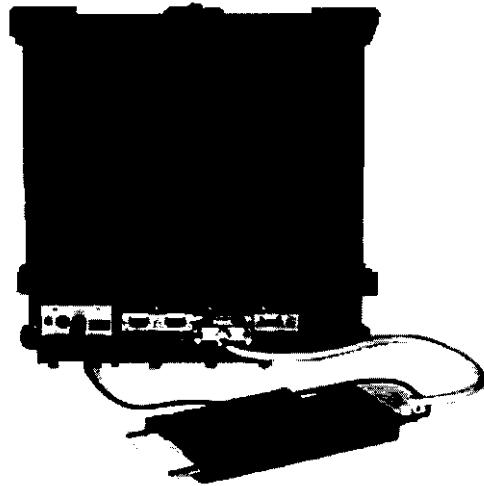

Figure 2-9 Use the External FDD
1. Plug the 36 pin external FDD cable to the external FDD, and the other end (25-pin) to the computer printer port. (See Figure 2-9)